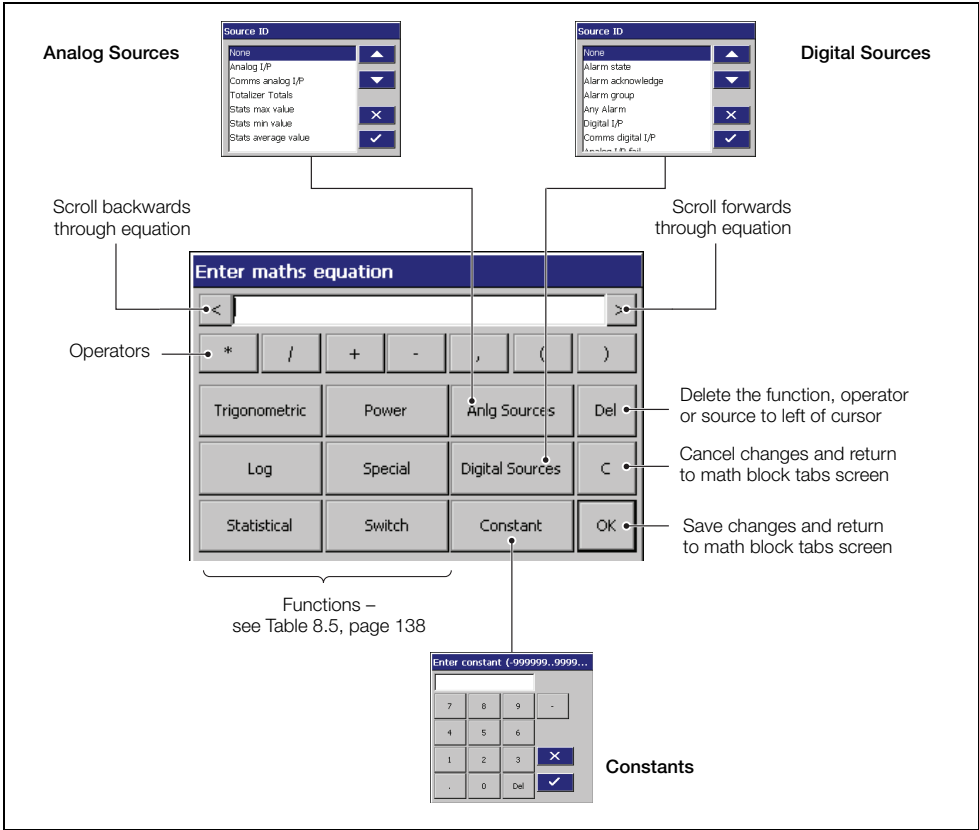

Fig. 8.21 Math pad
- Up to 24 math equations can be configured individually using the math pad – see see Fig. 8.21, page 139.
Equation	If Block Type is set to Equation Editor, create an equation using the math pad – see Fig. 8.21, page 139. If Block Type is set to Predetermined Equation, select a predetermined energy calculation equation – refer to Appendix G, page 188.